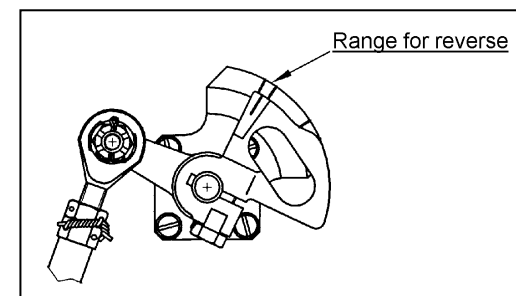

FIGURE 12-18
- (2) Fix the loosen rod "Sv" 65 using lock wire to the governor such way, that it will not be reduced in its movement later during adjustment.
- (3) Adjust maximum reverse power according to engine operation manual.
- (4) Place the engine condition lever to maximum reverse position after reverse power adjustment. Guideline on the cam lever should be aligned with reverse range zone (figure 12-18). If not, adjust according to the engine operation manual.
- (5) Zapojte táhlo "Sv" 65, utáhněte matici čepu a kontrolujte seřízení sdružené vazby na stupnici podle této kapitoly.
- (6) Pojištění matice závlačkou provedte až po kontrole základního seřízení podle této kapitoly.